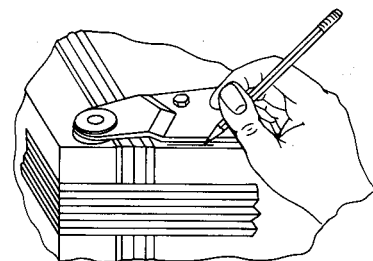

FIGURE 5A
3. To assure proper door realignment, draw a pencilled outline of both top hinges on cabinet. See Figure 5A.